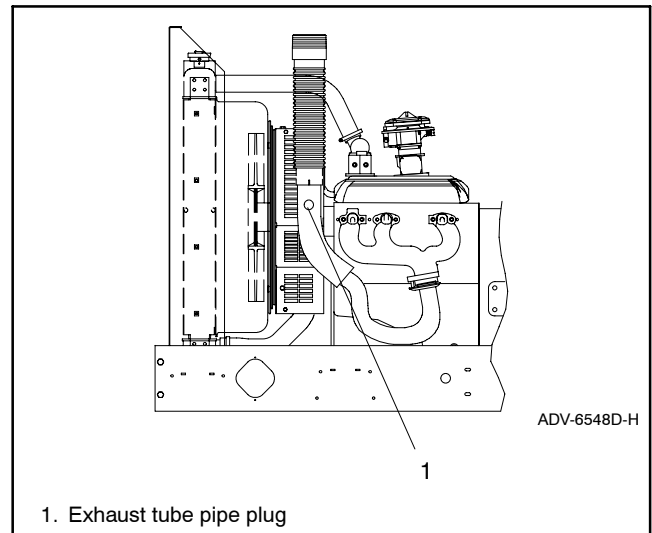

Figure 3 Oxygen Sensor Mounting Location, Typical (30 kW model shown)
- 2.1 Remove the oxygen sensor pipe plug from the exhaust pipe. See Figure 3 for location.